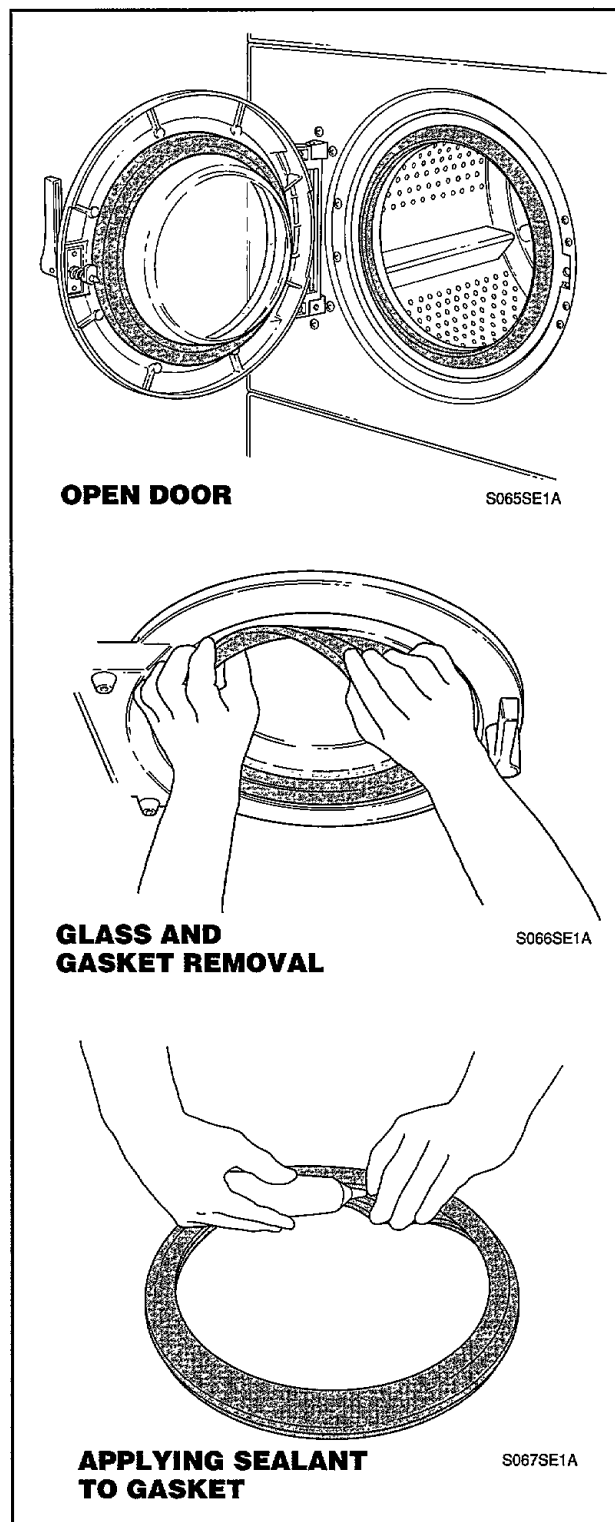

Figure 10
- Starting at the top of the door, peel the old gasket from the door frame and at the same time push in on the door glass forcing the glass and gasket off the door frame, *Figure 10*.
- Remove the old gasket from the door glass, *Figure 10*.
- Apply a bead of a good quality water and temperature resistant silicone sealant, such as Dow Corning Silastic 732-RTV or equivalent (these are clear silicone sealants), around the entire area of the door glass gasket channel. This is the channel with the ribs that seal against the glass surface, *Figure 10*.